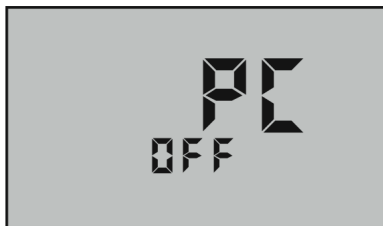

Figure 24
2. Put the POOLPRO in "PC On" mode by pressing the  key until "PC OFF" appears (see Figure 24).